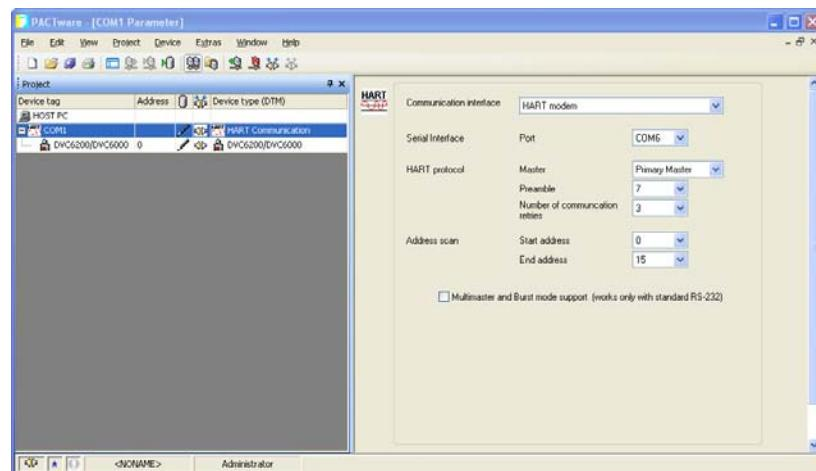

Figure 4-3. Setting the CommDTM
Step 4: Set the appropriate settings for the CommDTM and DeviceDTM (see figure 4-3 and 4-4).